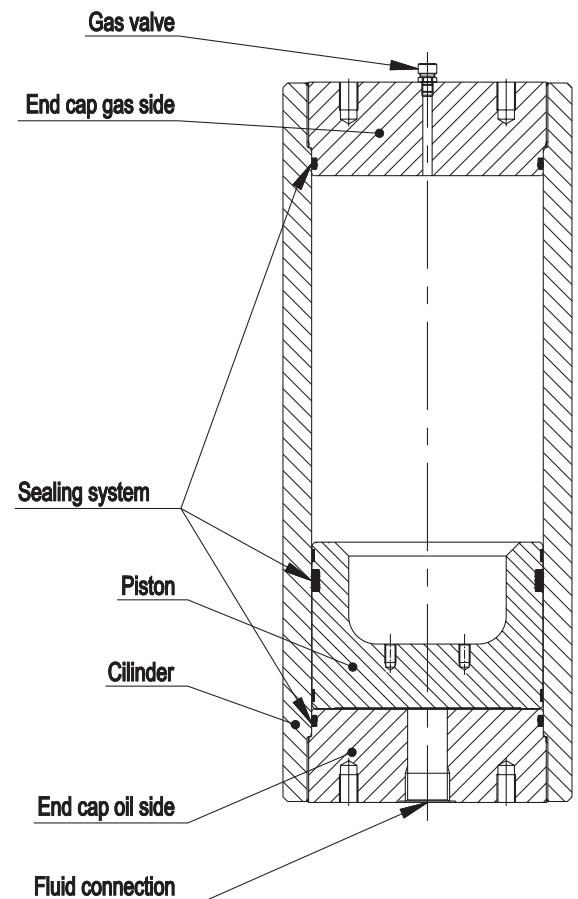

Fig. 1
This divides the internal of the cylinder in two chambers, one filled with pre-charge gas and the other with oil, or generally speaking, with fluid from the system (Fig 1).
- **The piston** is made from aluminium in order to have rapid response time and not to generate pressure peaks during rapid cycles. It also has a cavity in order to lighten it, visible in fig 1. facing the gas chamber, in order to increase the volume of accumulate. Even the surface in contact with the oil has a concave cavity. The purpose of this cavity is so that the oil pressure acts on almost the entire surface of the piston and not only in one spot when the piston is against the bottom end cover in the oil chamber